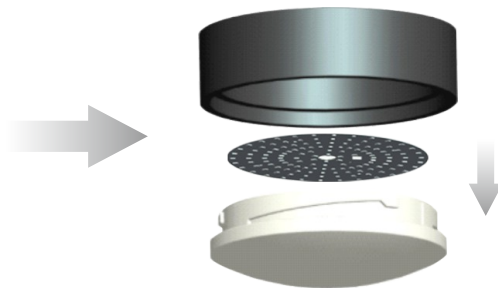

Fig 3.2
3.2 The light assembly after disassembly is shown in Fig 3.2.